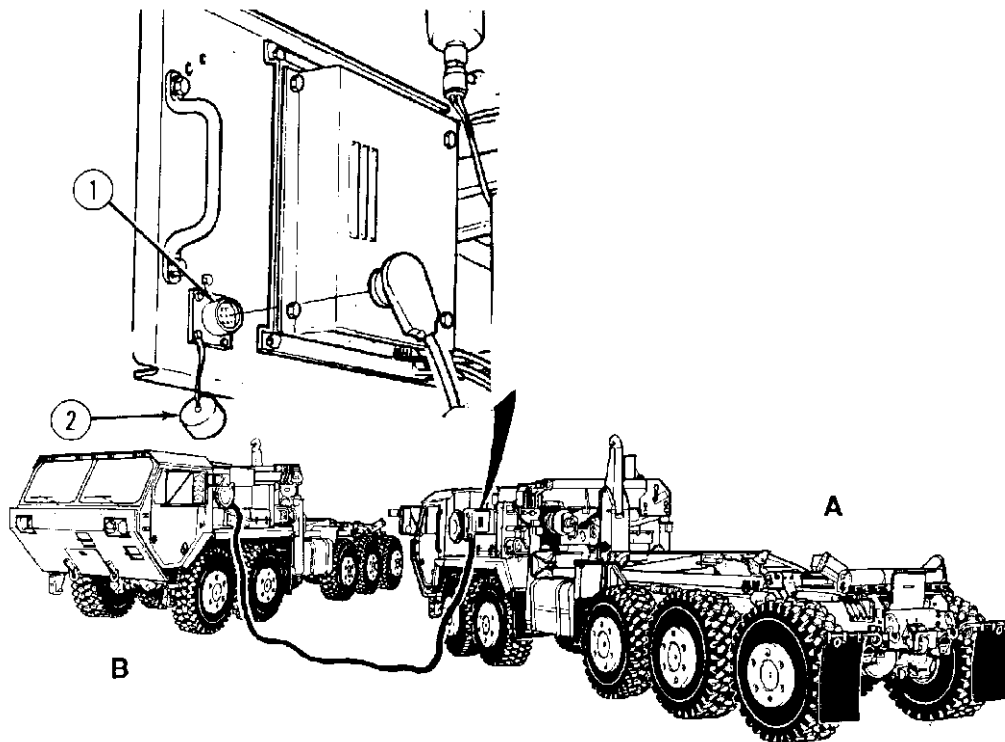

Figure 12. 27 Slave Receptacle
12.11.1.2 Move truck (A) into position beside the launch vehicle (B) so that the slave receptacles (Figure 12. 27. (1)) on truck and launch vehicle are side by side.